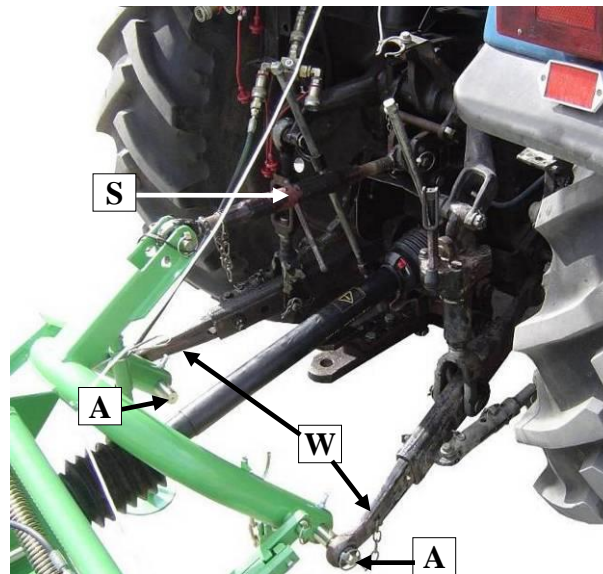

Fig. 9. Connecting mower to the tractor
Mower should be attached to the tractor with use of 3-point linkage as provided in Fig. 9. After the mower has been attached, adjust mower's position by means of top **S** and lower links (**W**). The cutterbar should lean towards driving direction. Lower links **W** should be connected to 3-point linkage frame pins **A** (Fig. 9). Connect hydraulic hoses to tractor's hydraulic connectors.
- ❑ by means of upper link (S) (Fig. 9) adjust the cutting height. Extending the link S increases the cutting height and shortening the link reduces it.